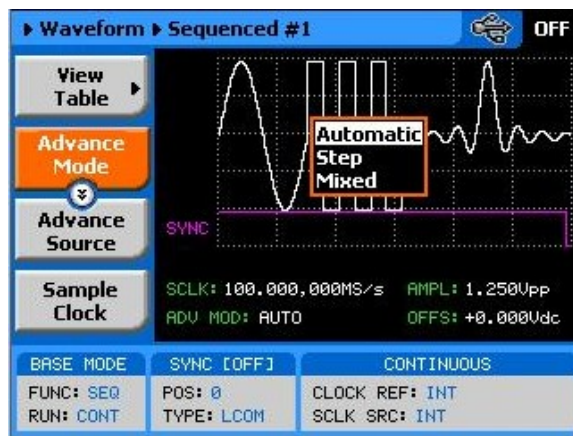

Figure 3-20, Sequence Advance Options, Continuous Run Mode
1. Refer to Figure 3-20 and select the Advance Mode with the appropriate soft key. The advance mode options, as shown in Figure 3-20 will display. Use the dial or arrow keys to scroll down to the required mode and press Enter to lock in the selected mode.
The operating mode of the instrument, as selected from the Run Modes menu, affects the way that the 1281 lets you access the sequence advance mode parameter. If you are in continuous mode, as shown in Figure 3-20, you can select one of: AUTO, STEP, or MIXED. If you already selected the triggered run mode, you'll be able to select from AUTO, or SINGLE only as advance modes, as shown in Figure 3-21.